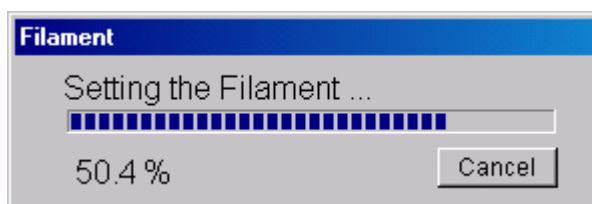
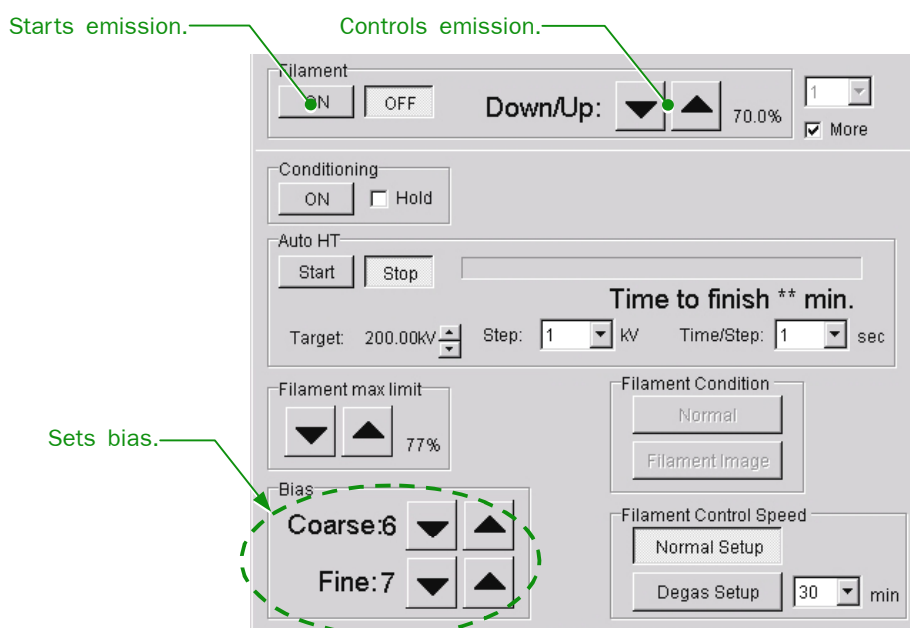

Fig. 5.14 Filament window
Fig. 5.15 Generating high voltage
- b. Click on Filament **ON** in the **High Voltage Control** window or press the Beam button (L1-①) on the control panel to generate the electron beam.
- ✍ While the electron beam is being generated, the **Filament** window opens. While the **Filament** window is open, you cannot access any other windows (☞ Fig. 5.14).
- a. Set the desired percentage to the set maximum beam emission using the Filament **Down/Up** buttons in the **High Voltage Control** window (☞ Fig. 5.15).
- ✎ The percentage to be selected cannot exceed the value that is preset in Filament max limit in the **High Voltage Control** window (☞ Fig. 5.15) at the time of shipment from the factory. Do not modify the value.
- ✎ While the electron beam is being generated, the **Filament** window opens. While the **Filament** window is open, you cannot access any other windows (☞ Fig. 5.14).
- c. Set Beam Current in the **High Voltage Control** window to 10 μA using the Filament up and down triangle buttons and the Bias Coarse and Fine triangle buttons (☞ Fig. 5.15).
- a. Turn on TEM (L1-③).
- b. Set SPOT SIZE in the TEM Controller main window to SPOT 2 using the SPOT SIZE (L1-③) and α 3 using the α SELECTOR (L1-③).
6. Make sure that all the lens switches (L3-⑧) are on; then press MAG2 (r1-②). A specified magnification of 5000 \times is obtained. If it is not, correct it by referring to Section 5.15.4.
7. Turn the BRIGHTNESS knob (L1-⑥) to see if the electron beam appears on the fluorescent screen. If you find the screen partly illuminated, proceed to the next step. If you don't, proceed to Step 10 below.
8. Adjust the SHIFT X and Y knobs (L1-⑧ and R1-③) and the BRIGHTNESS knob (L1-⑥) to the brightest beam spot condition.
9. When screen brightness increases and starts to get too bright, turn on PLA (R2-⑤) or click on DEF Select **PL** in the **Alignment Panel for Maintenance** window; adjust the SHIFT X and Y knobs (L1-⑧ and R1-③) and the BRIGHTNESS knob (L1-⑥) to the brightest beam spot condition again; then align the condenser lens optical axis, referring to Section 5.5.3.